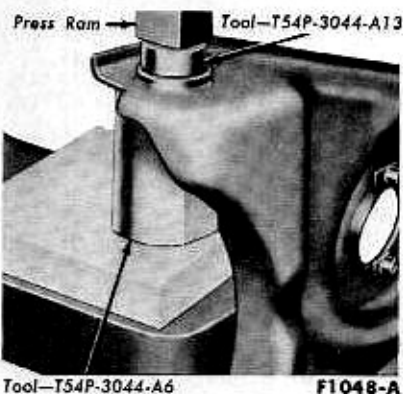

FIG. 10—Lower Arm Bushing Removal
1. Install the bushing remover tool (Fig. 10) and press both bushings out of the arm.